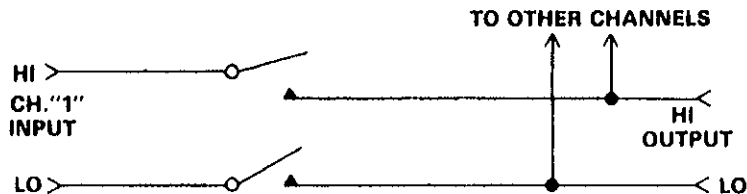

Figure 1. Typical Channel, Voltage Scanner Mode
A. Voltage Scanner Card—The Model 7056 can be used as a voltage scanner card. Figure 1 shows a typical channel in the voltage scanner mode. When the Model 7056 card is used in a Model 705 scanner mainframe, one of 10 channels can be switched to the output at a time. When scanning, the relay contacts of one channel will break before the relay contacts on a second channel will make, ensuring isolation between channels.